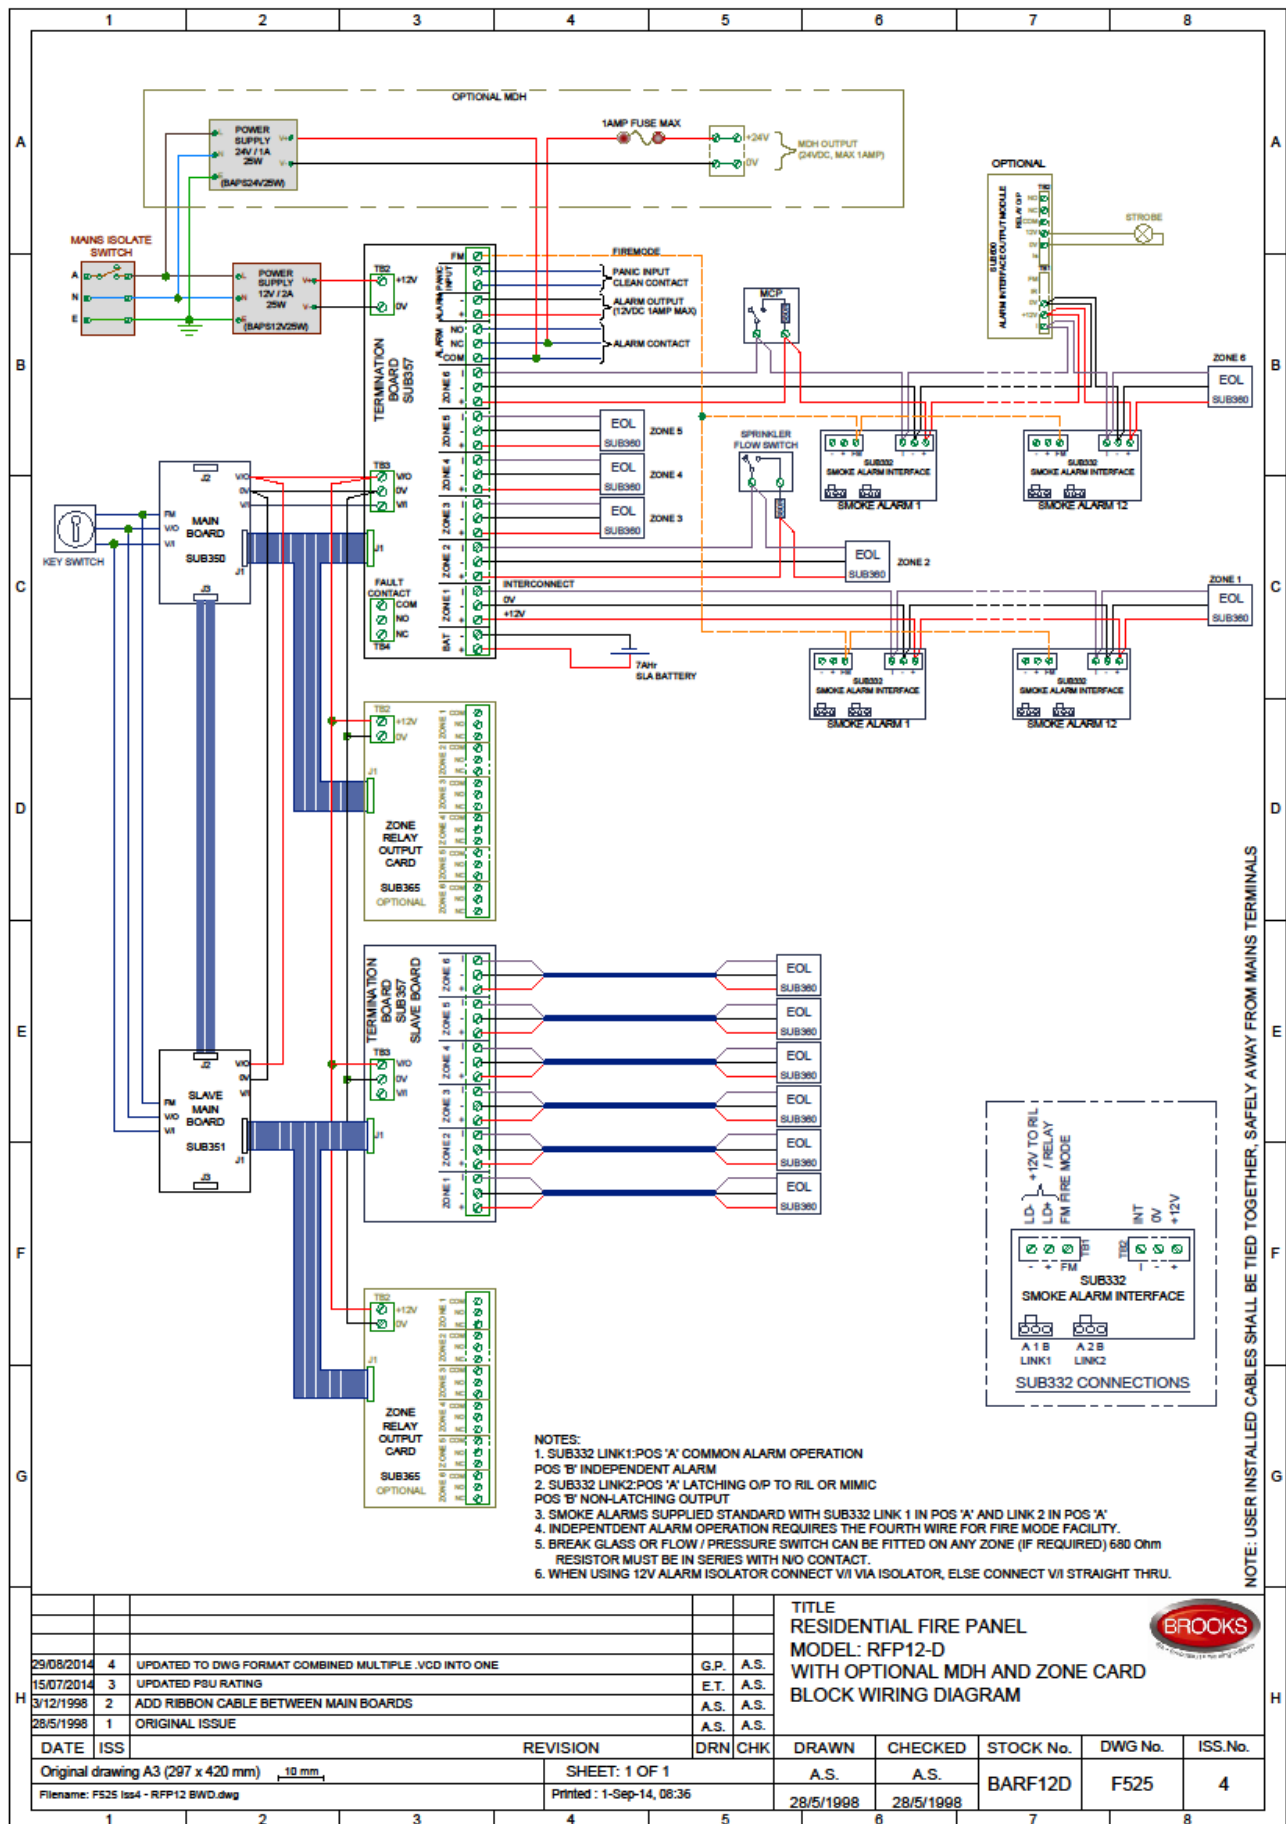
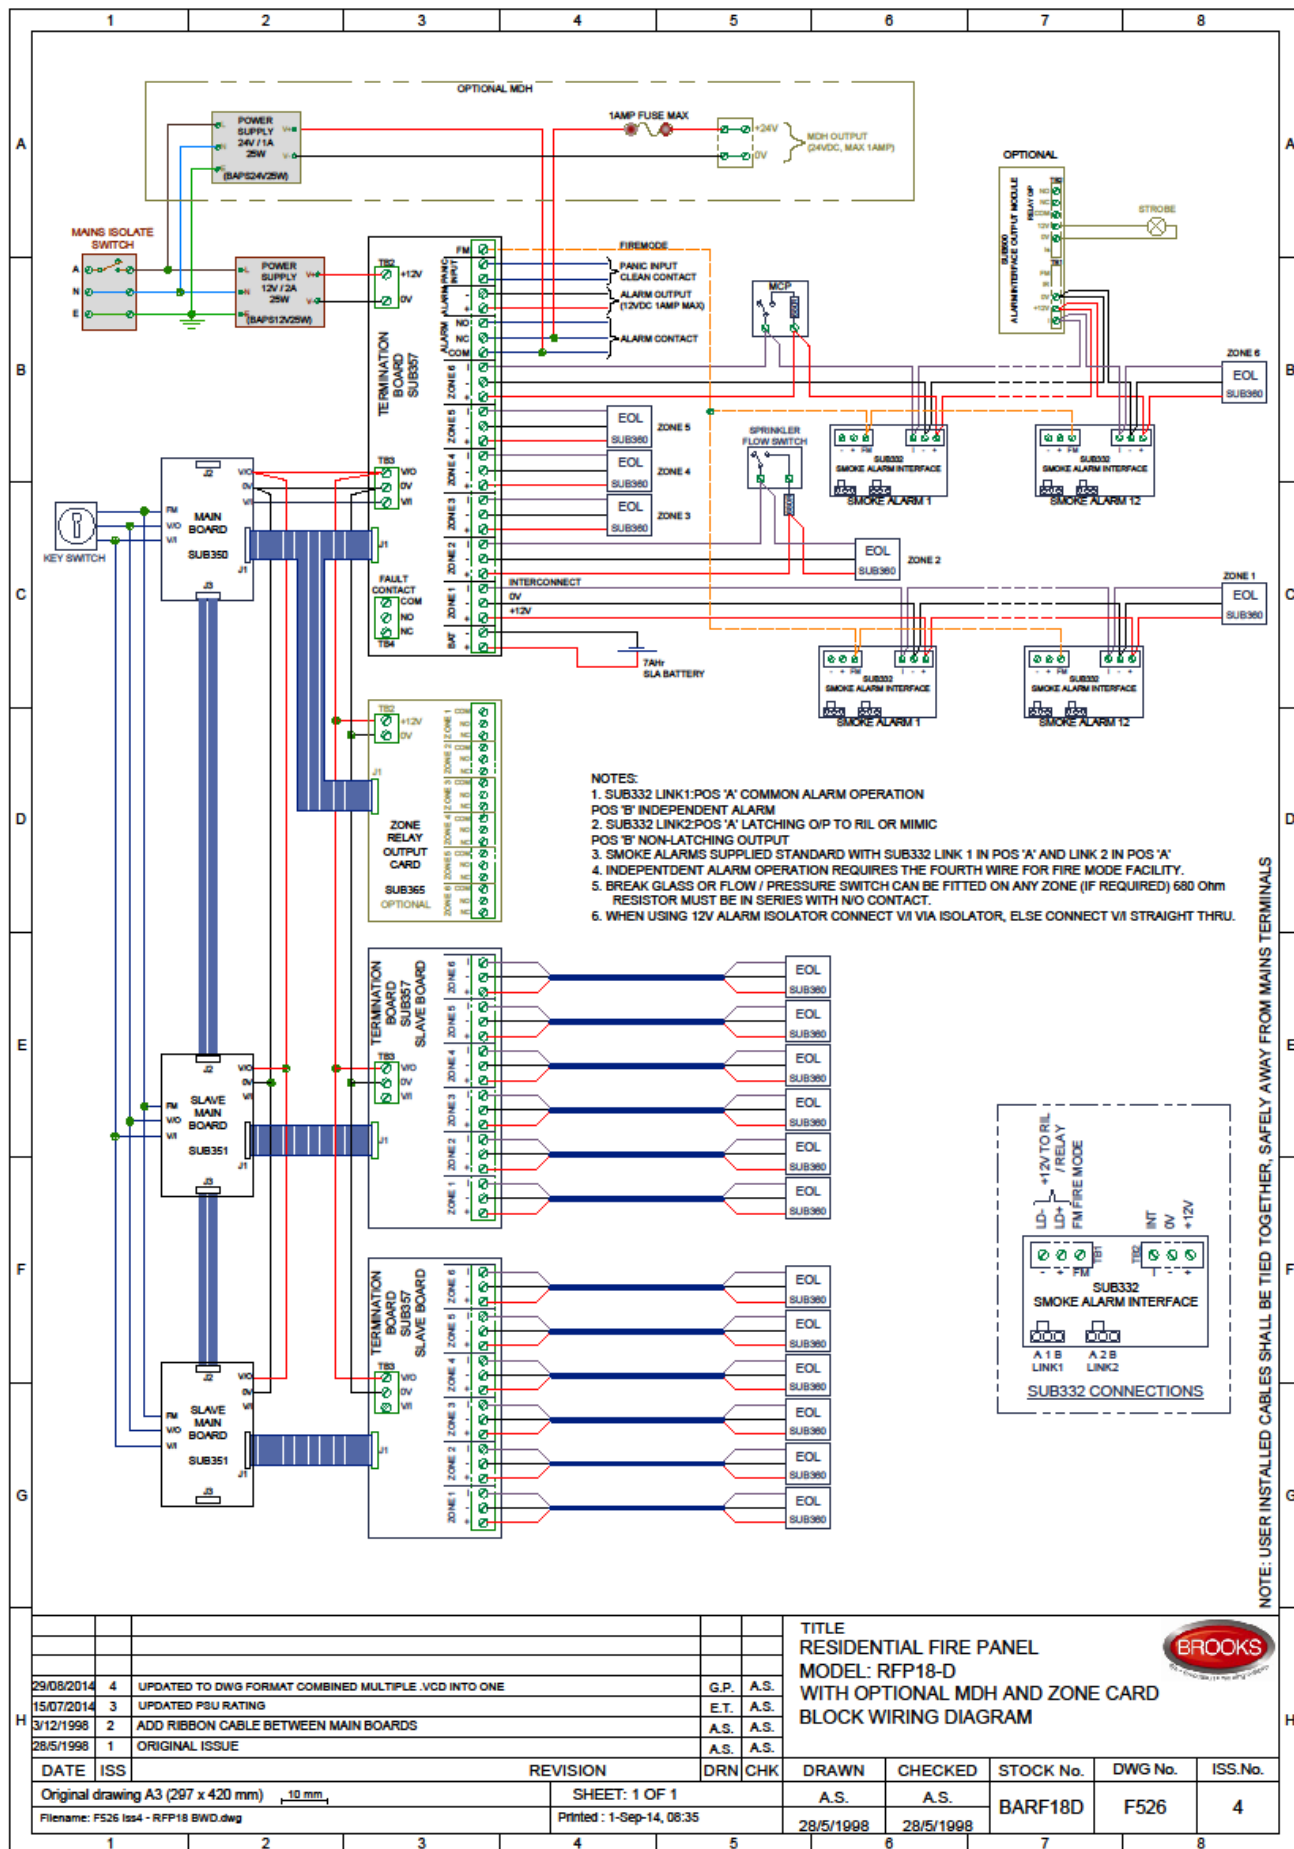

Figure 6
Figure 7
The termination board (one for each group of six zones is clearly labelled for positive supply (+), negative supply (-) and interconnect (I) for Zone 1 to Zone 6, zone 7 to zone 12 and zone 13 to zone 18 (for RFP18). When terminating each zone disconnect the End Of Line device and reterminate it at the last Smoke / Heat Alarm on the zone. Figure 6 shows how the field wiring is terminated on the termination boards for RFP12 and figure 7 for RFP18.
An optional card which allows for separate zone outputs for each group of six zones is available when ancillary devices are required to operate on an activated zones basis only. A set of voltage free contacts is supplied for each zone which can be used to control equipment such as bells, sirens, or flashing lights, strobes and door holders etc. Also available on this card is the ability to group zones such that combinations of zones can operate together. This is achieved by dip switch selection. The possible configurations are detailed in Figure 7.
(Refer to jumper set up Fig. 6) Standalone or common alarm operation
(Refer to Dip Switch set up on Fig. 7) Latching or non latching alarm indication
All field cabling is to be terminated on the Terminals provided as per Fig 6 and Fig 7. The Figures show the conventional Block Wiring Diagram using 3 or 4 core cable for each zone as per options selected.